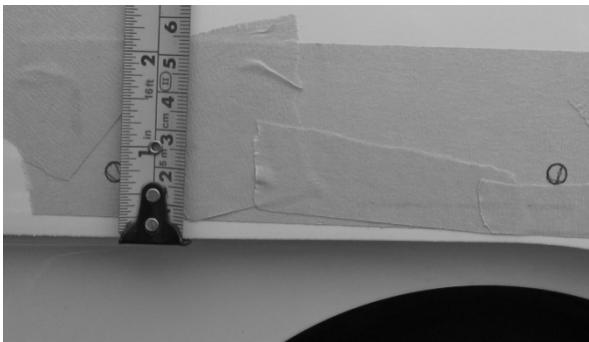

FIG 1
2. Using a pen or pencil, measure and mark the 2 horizontal mounting holes along the same horizontal centerline $\frac{3}{4}$ " from the edge of the hood above the intake boot (Figure 1) and at 3 1/8" and 7 3/4" from the rear edge of the hood (Figure 2).